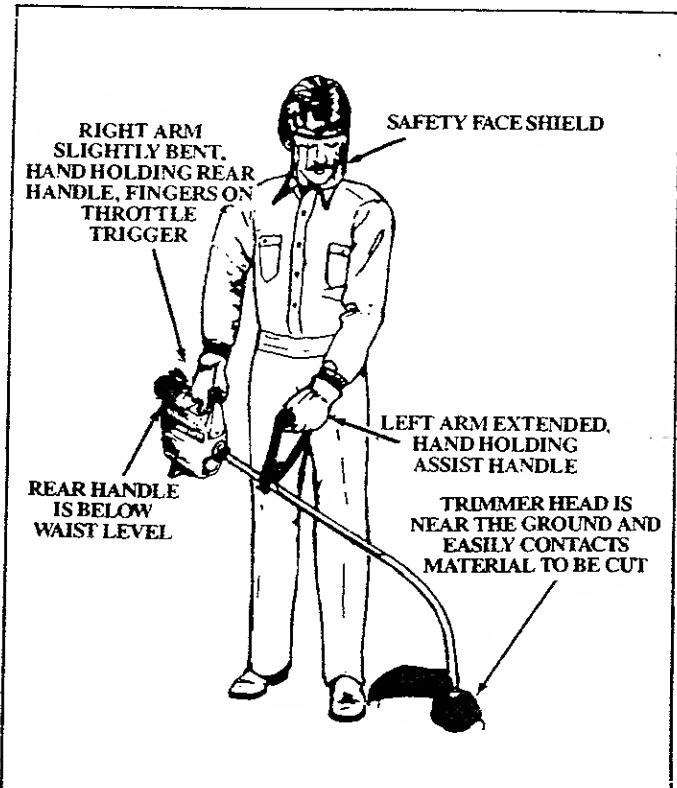

Figure 6
### 5. OPERATING POSITION — Figure 6
- Before starting the Engine, stand as shown in Figure 6 and check for the following: